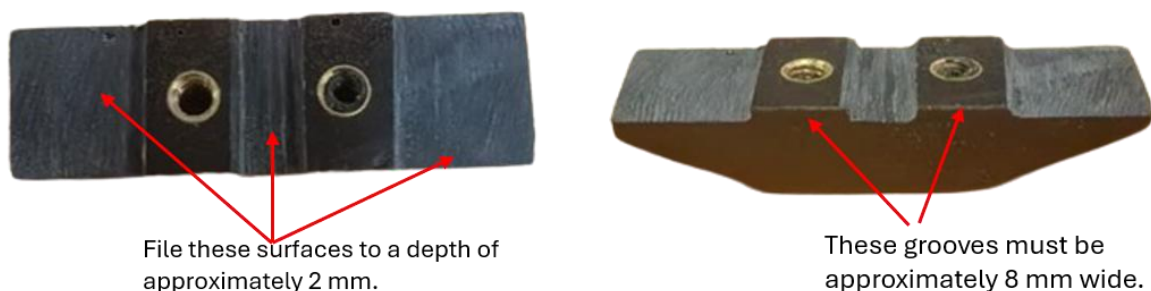

Figure 4: Latch Block Modification
2. Modify the luggage door latch block as shown in Figure 4.